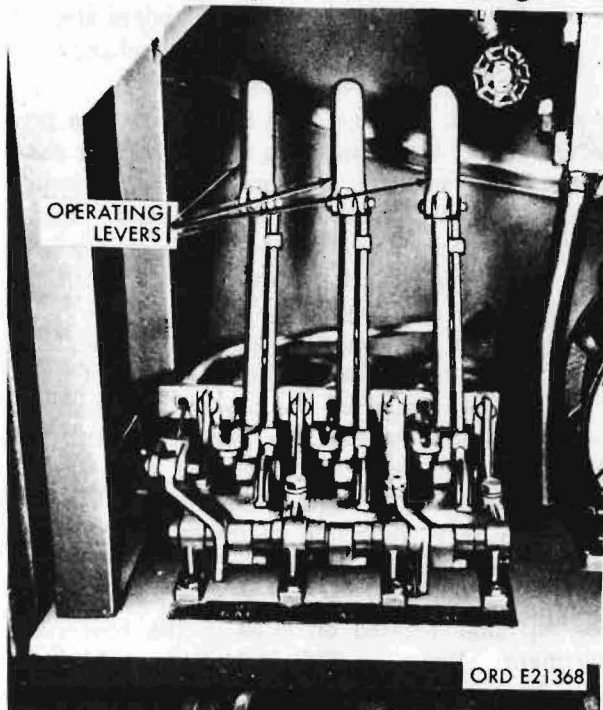

Figure 120. Discharge valve control operating levers.
a. General. The delivery pump is connected to the transfer power take-off by three drive shafts. Control of the pump operation is accomplished by movement of the transfer power take-off shifting lever (fig. 34). The engine auxiliary governor regulates the engine speed during pump operation. The flow of fluid from the tank sections is controlled by discharge valves operated by the discharge valve control levers (fig. 120). Delivery lines from the pump and tank sections are regulated by delivery line gate valves.
(2) *Discharge valve-control operating levers.* Each discharge valve-control operating lever (fig. 120) controls one discharge valve, located in the manifold under each tank section. The lever is of the trip latch and spring type. Pulling back on the lever opens the discharge valve. The lever is released to the closed position by squeezing the trip rod operating handle mounted on the lever and allowing the lever to move forward. Closing of the rear compartment doors trips all operating handles to insure closed discharge valves during travel.